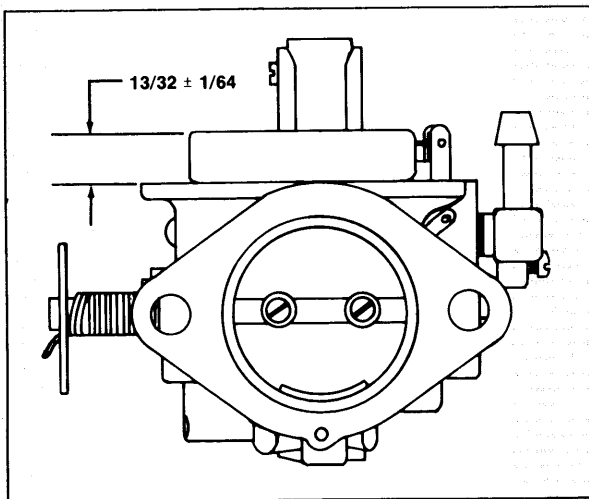

Figure 7—Measuring Float Height
- C. Measure float height as shown in figure 7.